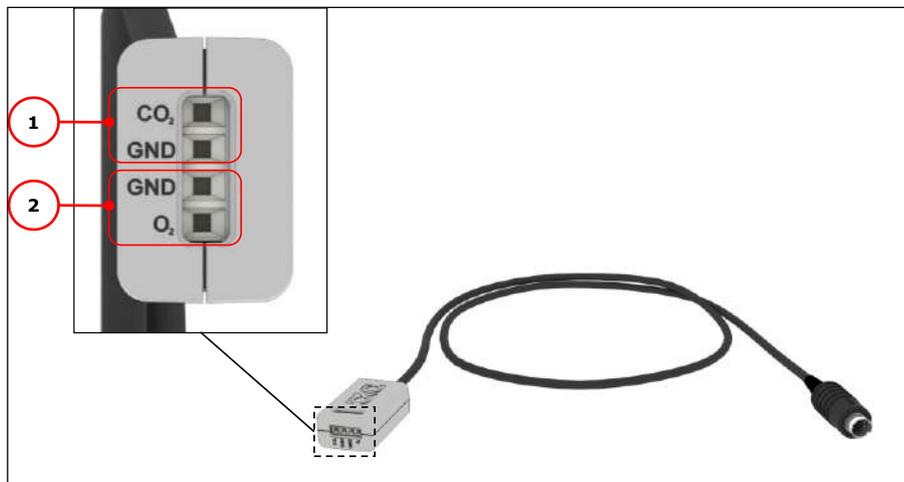

Figure 24 Analog Output connector
3. In order to use the Analog Output correctly, make sure that your external instrument is connected to Okolab connector of the Analog output cable following the indications in Figure 24